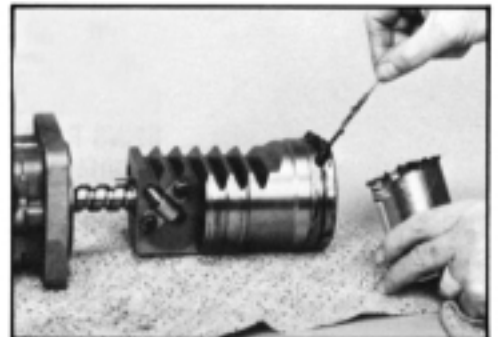

Figure 139
33. Apply a generous amount of clean grease to the piston ring (39A) on assembled rack piston and to the housing (55) rack piston bore. SEE FIGURE 139.